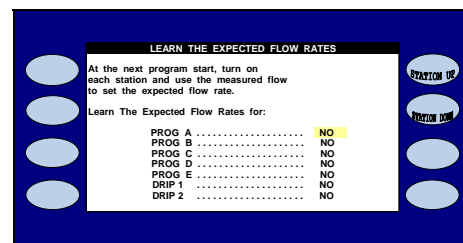

Figure 10.7
1. Press the **LEARN EXPECTED THE EXPECTED FLOW RATES** screen (Figure 10.7).